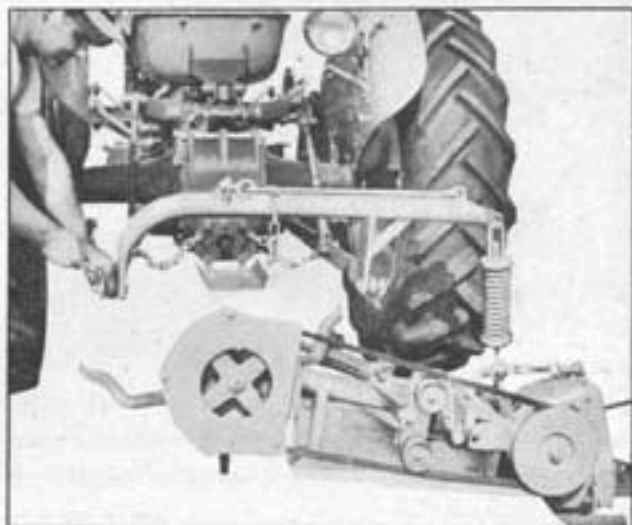

Fig. 8 Attach Lift Frame
5. Mount the lift frame to the tractor lower links in the normal manner, installing a stabilizer stay link on the left-hand link pin and special stabilizer bracket bolt. See Fig. 8.